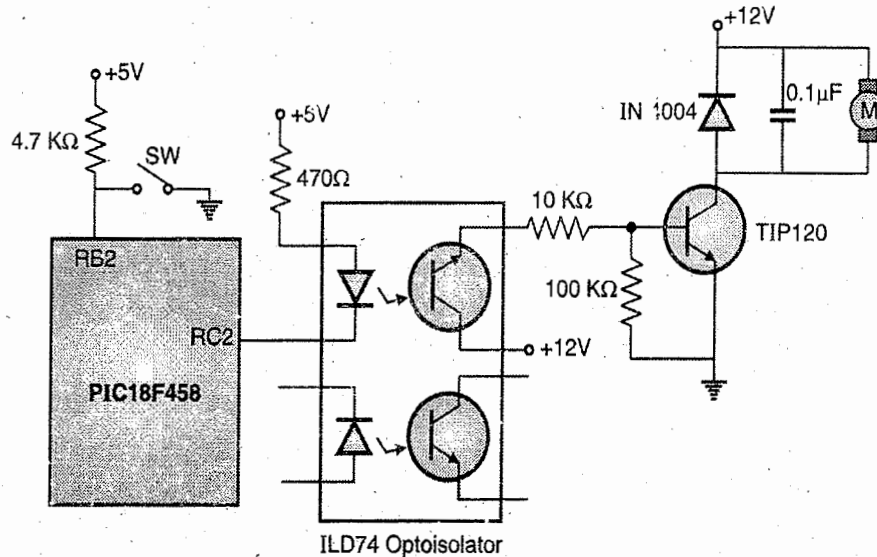

Fig. 11.7.8 : Interfacing DC motor to PIC18F458 using PWM
- Fig. 11.7.8 shows the DC motor control with CCP1 pin.